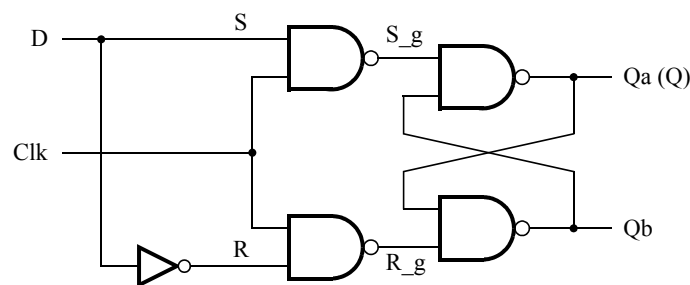
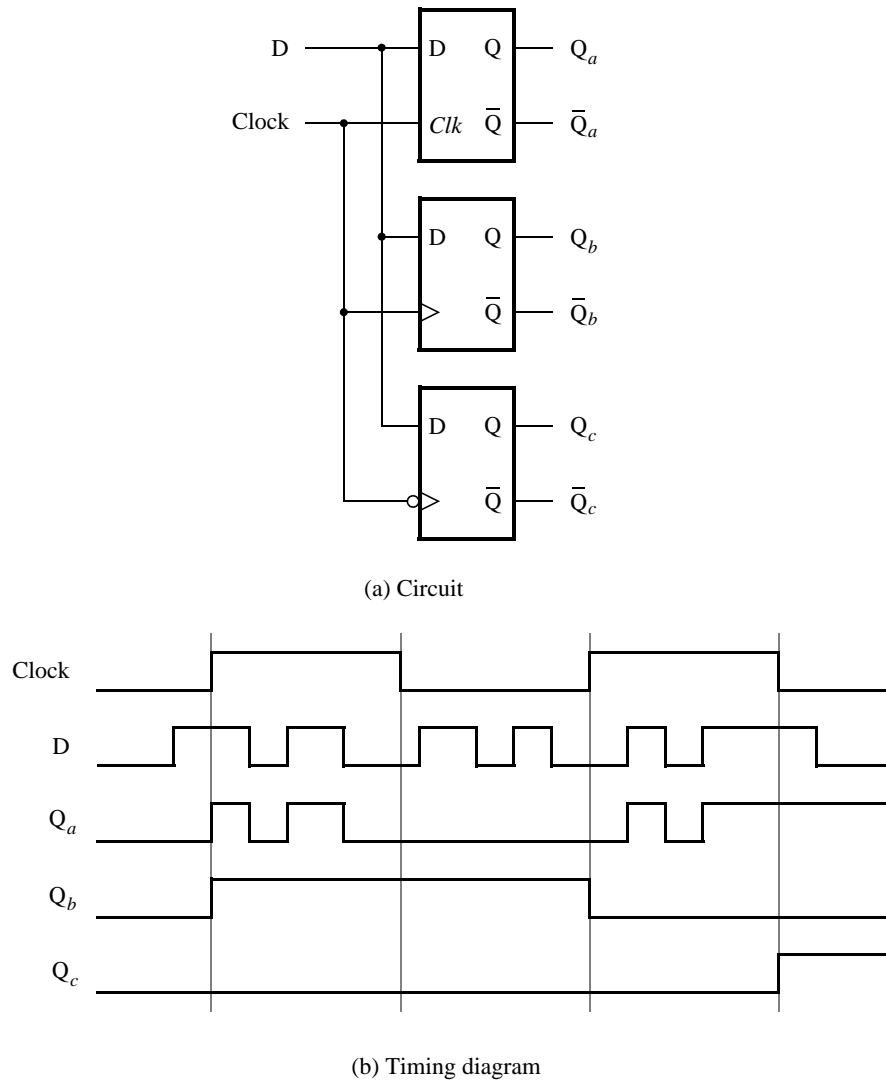

Figure 6: Circuit for a gated D latch.
Figure 8: Circuit and waveforms for Part IV.
Figure 6 shows the circuit for a gated D latch.
Figure 8 shows a circuit with three different storage elements: a gated D latch, a positive-edge triggered D flip-flop, and a negative-edge triggered D flip-flop.
2. Write a Verilog file that instantiates the three storage elements. For this part you should no longer use the `/* synthesis keep */` directive from Parts I to III. Figure 9 gives a behavioral style of Verilog code that specifies the gated D latch in Figure 6. This latch can be implemented in one 4-input lookup table. Use a similar style of code to specify the flip-flops in Figure 8.
4. Create a Vector Waveform File (.vwf) that specifies the inputs and outputs of the circuit. Draw the inputs *D* and *Clock* as indicated in Figure 8. Use functional simulation to obtain the three output signals. Observe the different behavior of the three storage elements.